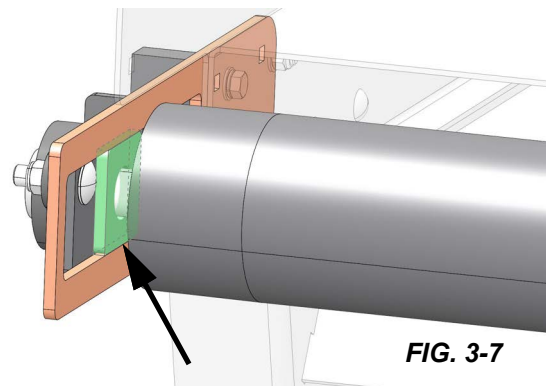

FIG. 3-7
13. Ensure the tensioner plate fits snugly into the idler plate as shown in FIG. 3-7.